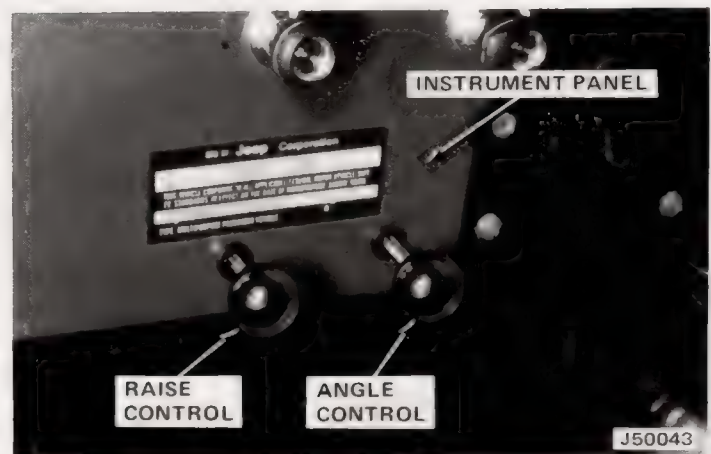
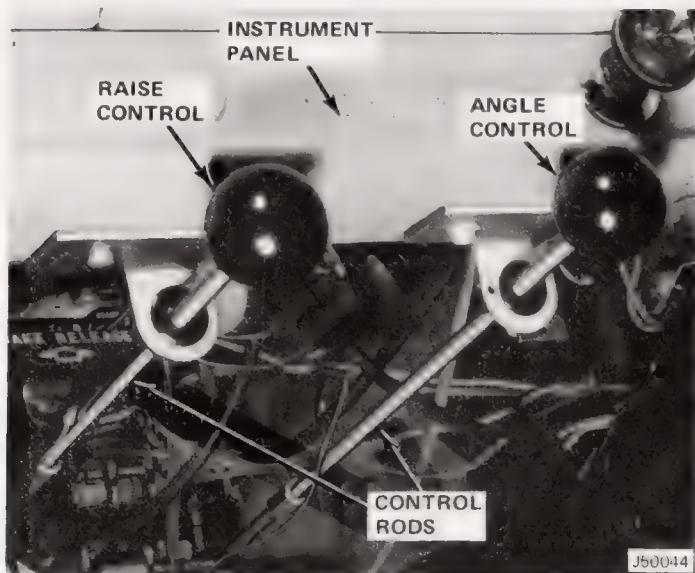

Fig. 1-61 Control Rods Installation Through Instrument Panel
Fig. 1-62 Control Rods Installation Under Instrument Panel
NOTE: Control rods may be installed by either of two methods: (1) by drilling holes through instrument panel (fig. 1-61) or (2) under the instrument panel by use of mounting brackets (fig. 1-62).
(26) Insert ends of rods through control arms on